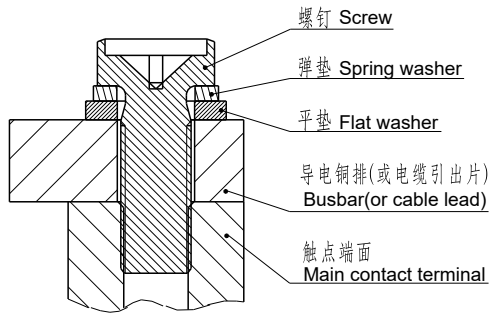

图1(Fig1)
- 当产品使用1个及多个导电铜排连接时，请确保导电铜排与触点端面紧密贴合（多个铜排需确保大电流的导电铜排最贴近触点端面，小电流的导电铜排其次），然后是平垫圈、弹簧垫圈、螺钉。不正确的连接顺序可能造成严重过热，参考下图1：
When the product is connected with one or more conductive copper bars, please ensure that the conductive busbars closely fit the contact terminal surface (The conductive copper bars with high current must be closest to the contact terminal surface if there are multiple copper bars and then conductive busbars with low current), followed by flat washers, spring washers and screws.Incorrect connection sequence perhaps give rise to severe overheating. Refer to Figure 1 as follows: